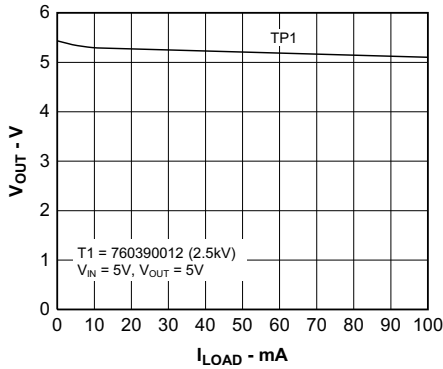

Figure 3. Output Voltage vs. Load Current
• Added graphs <a href="#">Figure 3</a> through <a href="#">Figure 4</a> .....	6